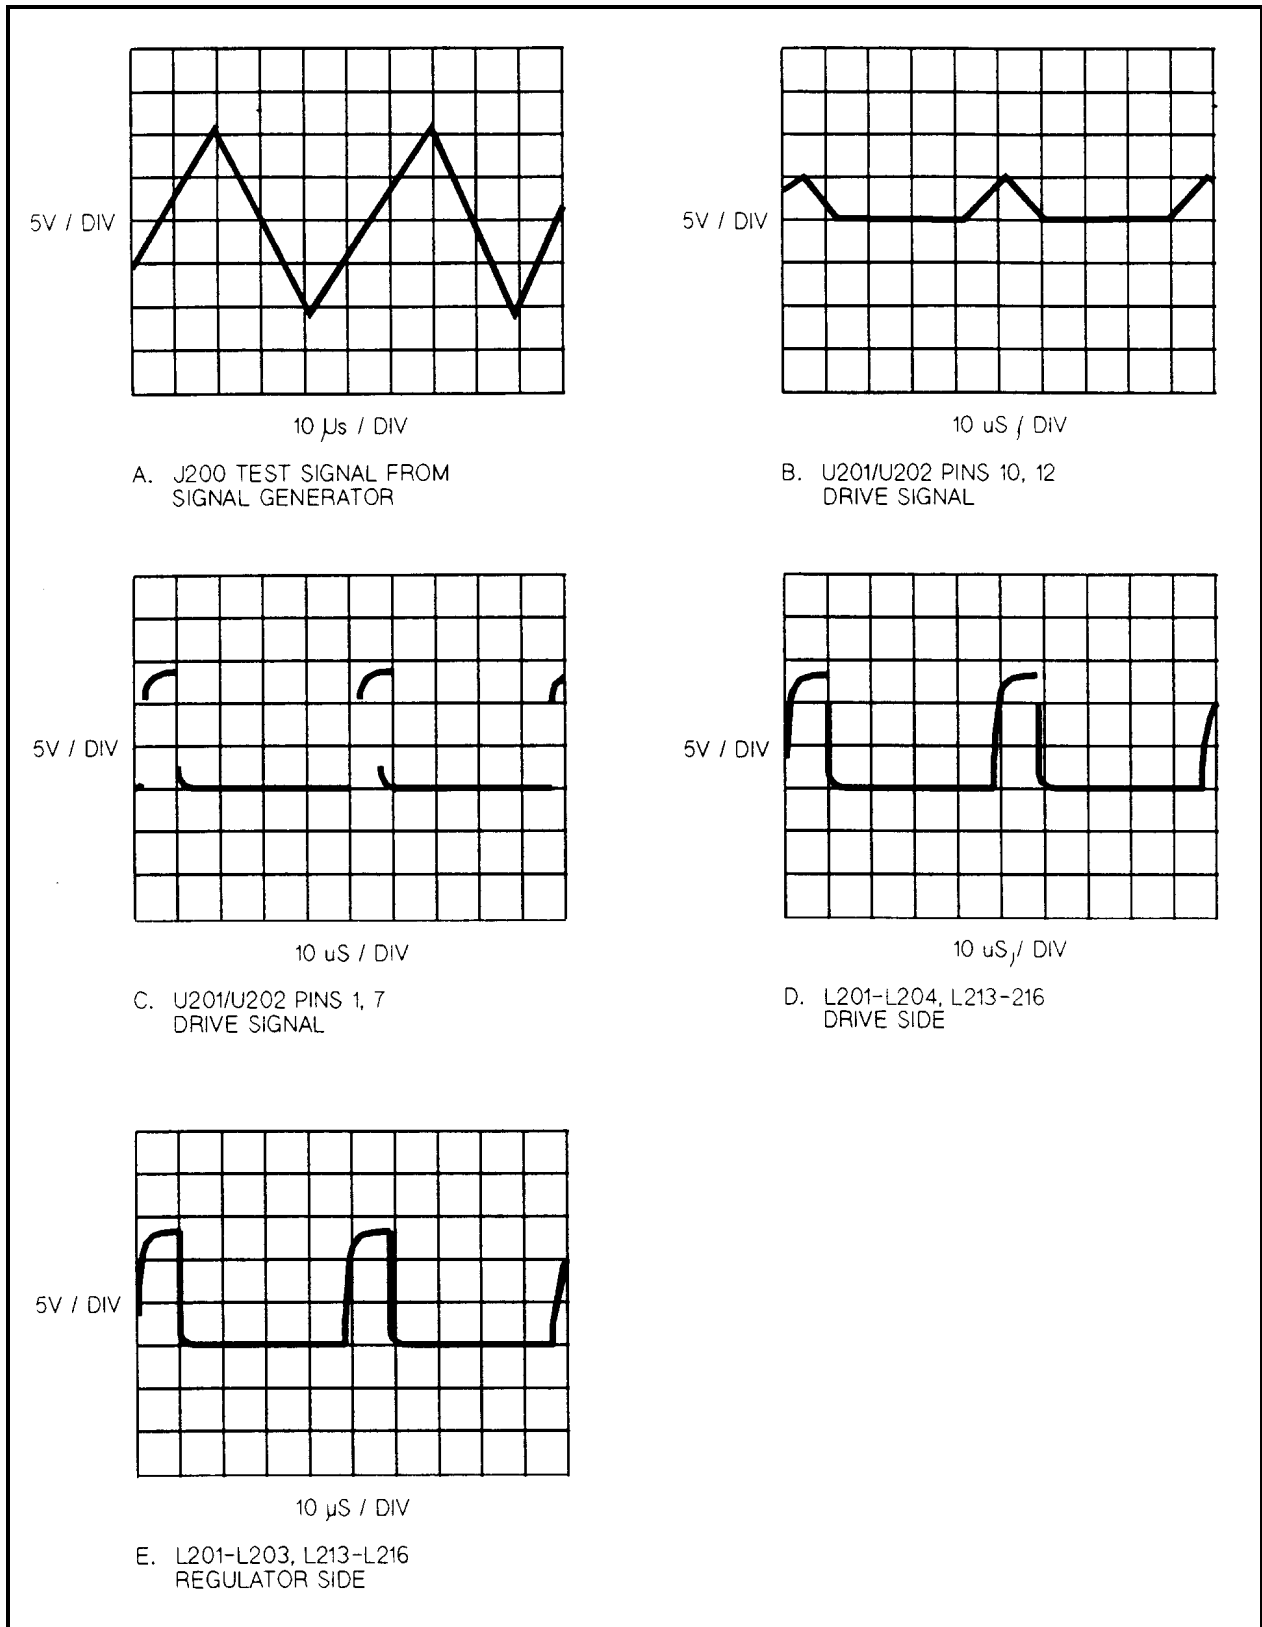

Figure 3-14. A3 FET Board Test Waveforms
10. Pulses should be present on both sides of inductors L201-204 and L213-216 as follows: Check the pulses on the driver transistor side (Q251-Q254) of each inductor. Check the pulses on the FET regulator side (Q201-Q204, Q211, Q222, Q233, and Q244) of each inductor. If the waveforms do not have the fast step as shown in Figure 3-14, then the associated FET gate input has an open circuit.	See Figure 3-14D. See Figure 3-14E.
11. Measure the VREF voltage at U204-4 (35) .	≈ 1.7V